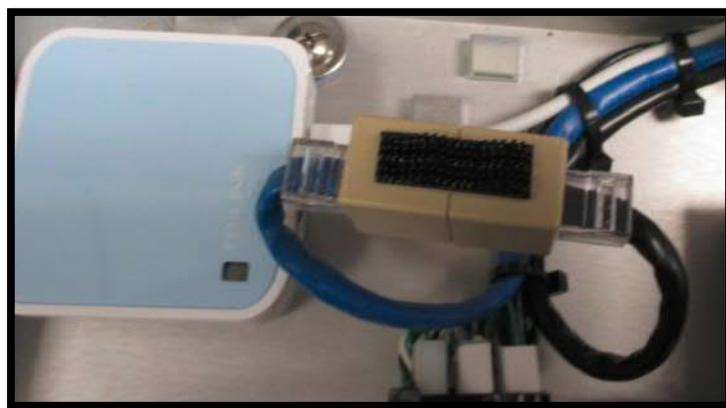

Figure 58: Plug Cables into Ethernet Union
3. Plug the black cable into either port of the Ethernet union. (Figure 58)
4. Plug the blue cable into the other port of the Ethernet union. (Figure 58)